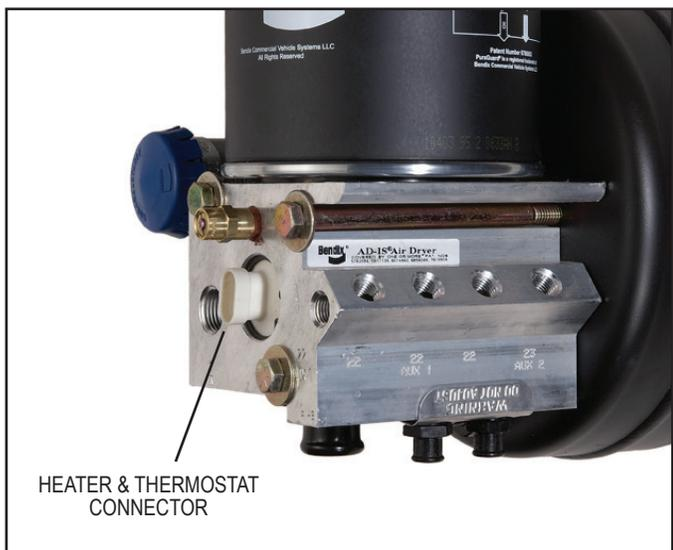

FIGURE 5 - AD-IS® AIR DRYER HEATER AND THERMOSTAT CONNECTOR
B. Thermostat and Heater Operation (Refer to Figure 5). *Note: These tests can only be conducted during cold weather operation.* Turn off the ignition switch and cool the thermostat and heater assembly to below 40°F. Using an ohmmeter, check the resistance between the electrical pins in the air dryer connector half. The resistance should be 1.5 to 3.0 ohms for the 12 volt heater assembly and 6.0 to 9.0 ohms for the 24 volt heater assembly. Warm the thermostat and heater assembly to approximately 90°F and again check the resistance.